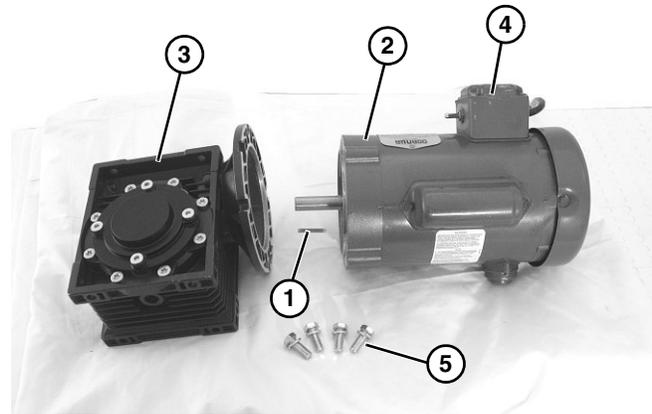

Figure 12
- With key (**Figure 12, item 1**) in keyway, slide motor (**Figure 12, item 2**) and gear reducer (**Figure 12, item 3**) together, noting where position of switch (**Figure 12, item 4**) will be during installation on conveyor.
- Install screws (**Figure 12, item 5**) and tighten to 65 in-lbs (7.3 N-m).